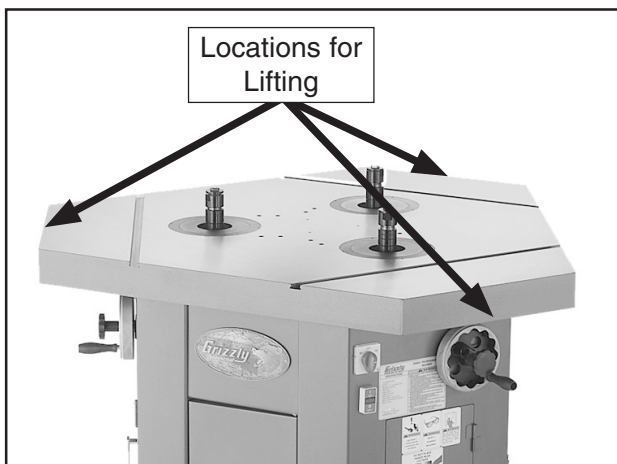

Figure 9. Locations for lifting.
- **Lifting Straps & Safety Hooks:** Connect three safety hooks to chains or web straps that are capable of securely hooking underneath the table edge at the three locations shown in **Figure 9**. Then attach the chains or web straps to a center safety chain secured to the power lifting equipment.
- **Forklift Forks:** Position the forks under the table and close to the cabinet (see **Figure 9**). Use cardboard to protect the table and cabinet from the forks.